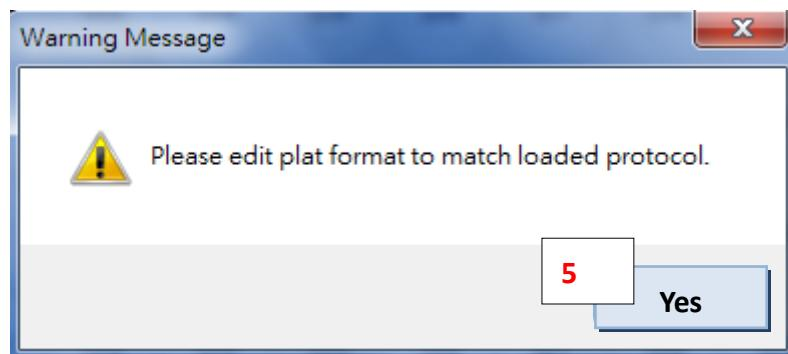

Figure 71. “Warning Message” window
- Step 4. Users are required to follow the settings of the loaded protocol when formatting the standards and controls. If the number of standard and control wells in the plate format does not match that of the loaded protocol, a pop-up “Warning Message” window (see Figure 71) will show up asking users to match the format of the loaded protocol.